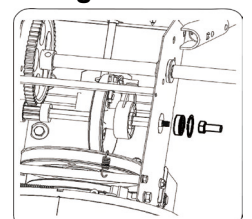

Figure 32
3. Carefully remove the hex nut and washer which secures. See Figure 32. The hex shaft to the snow thrower frame and lightly tap the shaft's end to dislodge the ball bearing from the right side of the frame.